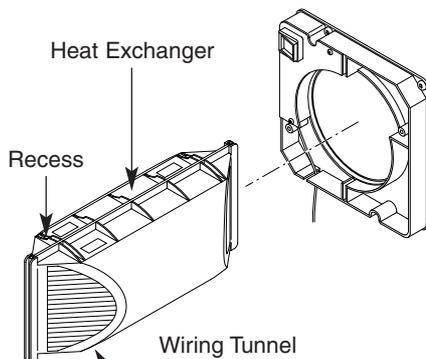

Fig. 46
**NOTE:** Follow the 'Inside/Outside' instruction labels on the heat exchanger. The recess in the heat exchanger outer wall must be aligned with the wiring tunnel on the unit to ensure the divider board slot is vertical (Fig. 46 & 47).